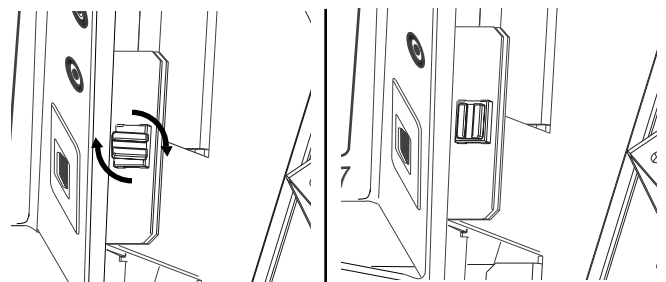

Figure 20
6.5 Rotate the plastic latches with your fingers to lock the splicer in place (Figure 20). *If you experience difficulty, re-seat the splicer or use a coin to rotate the latches.*